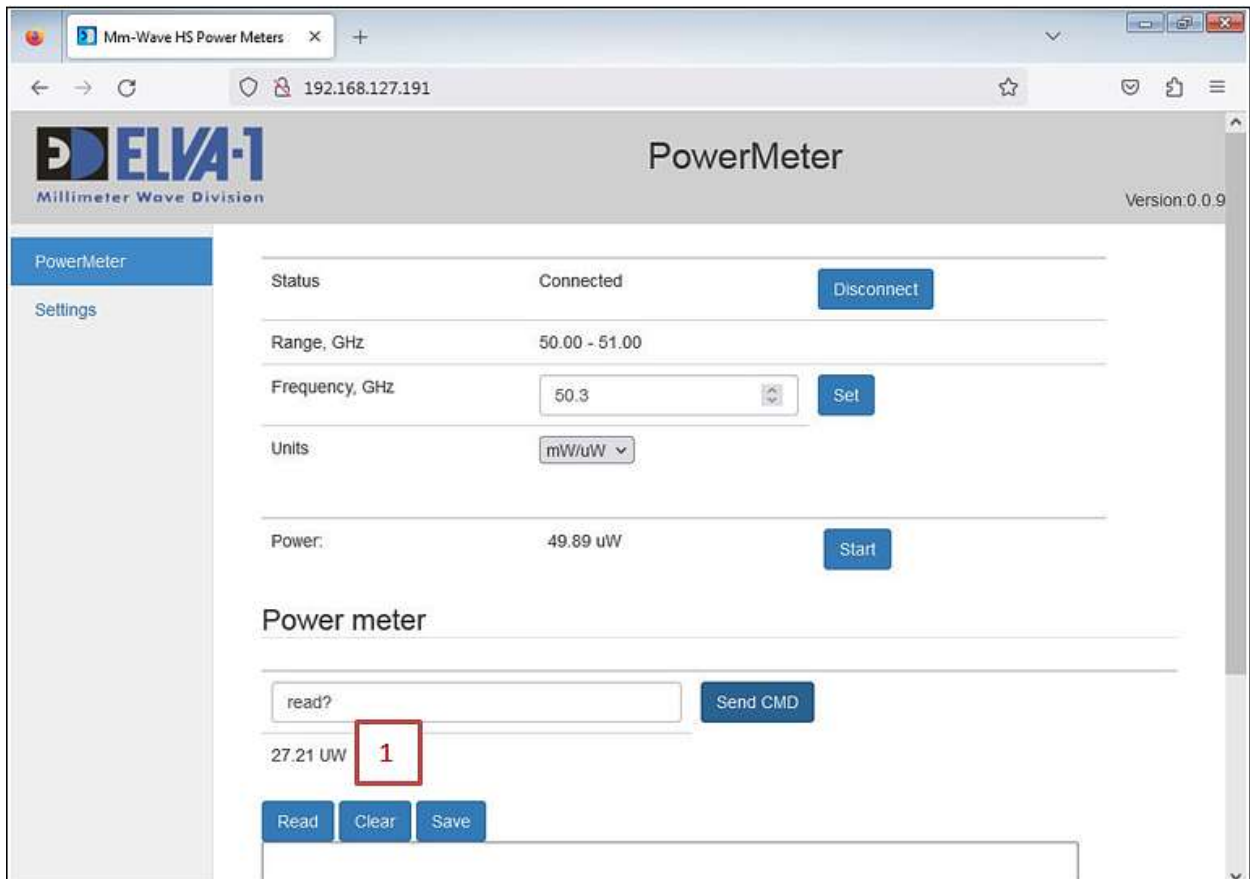

Fig.6. Command response
- The command response will be displayed below [marker #1, Fig. 6].